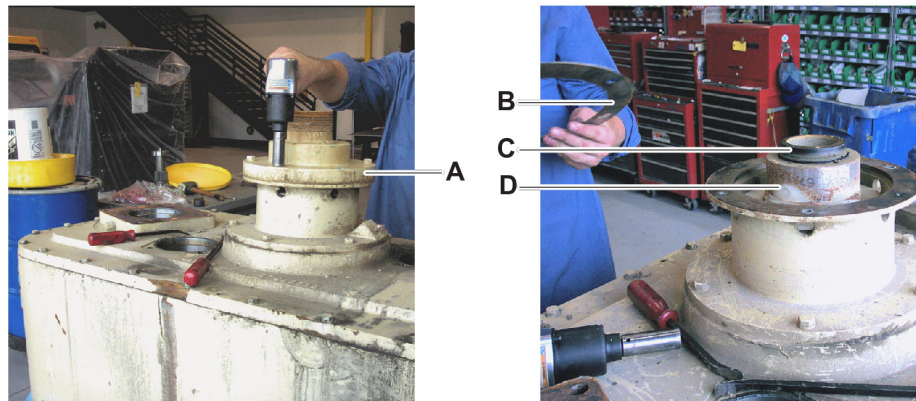

Figure 4
4. Remove spindle cover (Figure 4, item A), shims (item B), wear bushing (item C), and swivel 30-X packing from spindle cap (item D).